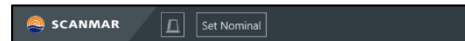

Figure 13 – *Set Nominal* resets nominal values for all deviations
- Click *Set Nominal* in the main horizontal toolbar. This will set the nominal value of all measurements to their current value. See *Figure 13*.